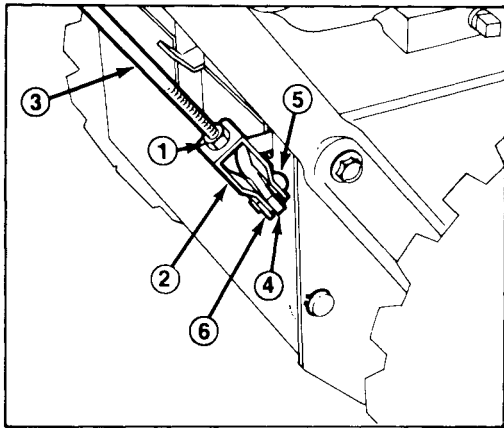

Figure 6
1. Loosen jam nut above clevis on upper control rod (Fig. 6).
2. Align holes in clevis and lower control rod, install with clevis pin (Fig. 6).
5. After adjusted, install clevis pin and secure with cotter pin. Tighten jam nut to secure clevis (Fig. 6).